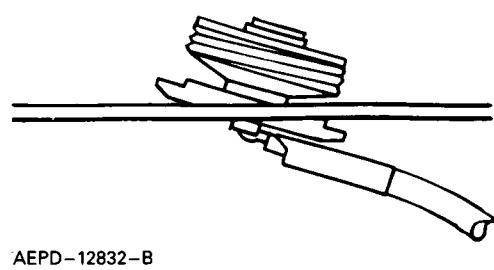

Figure 6. Bushing Assembly Insertion
Step 5. See Figure 6. The bushing assembly is now in a position to drop into the hole in the roof. It should be tilted at a slight angle and fed into the $\frac{3}{4}$ " hold. The threaded top will not fall through the hole.